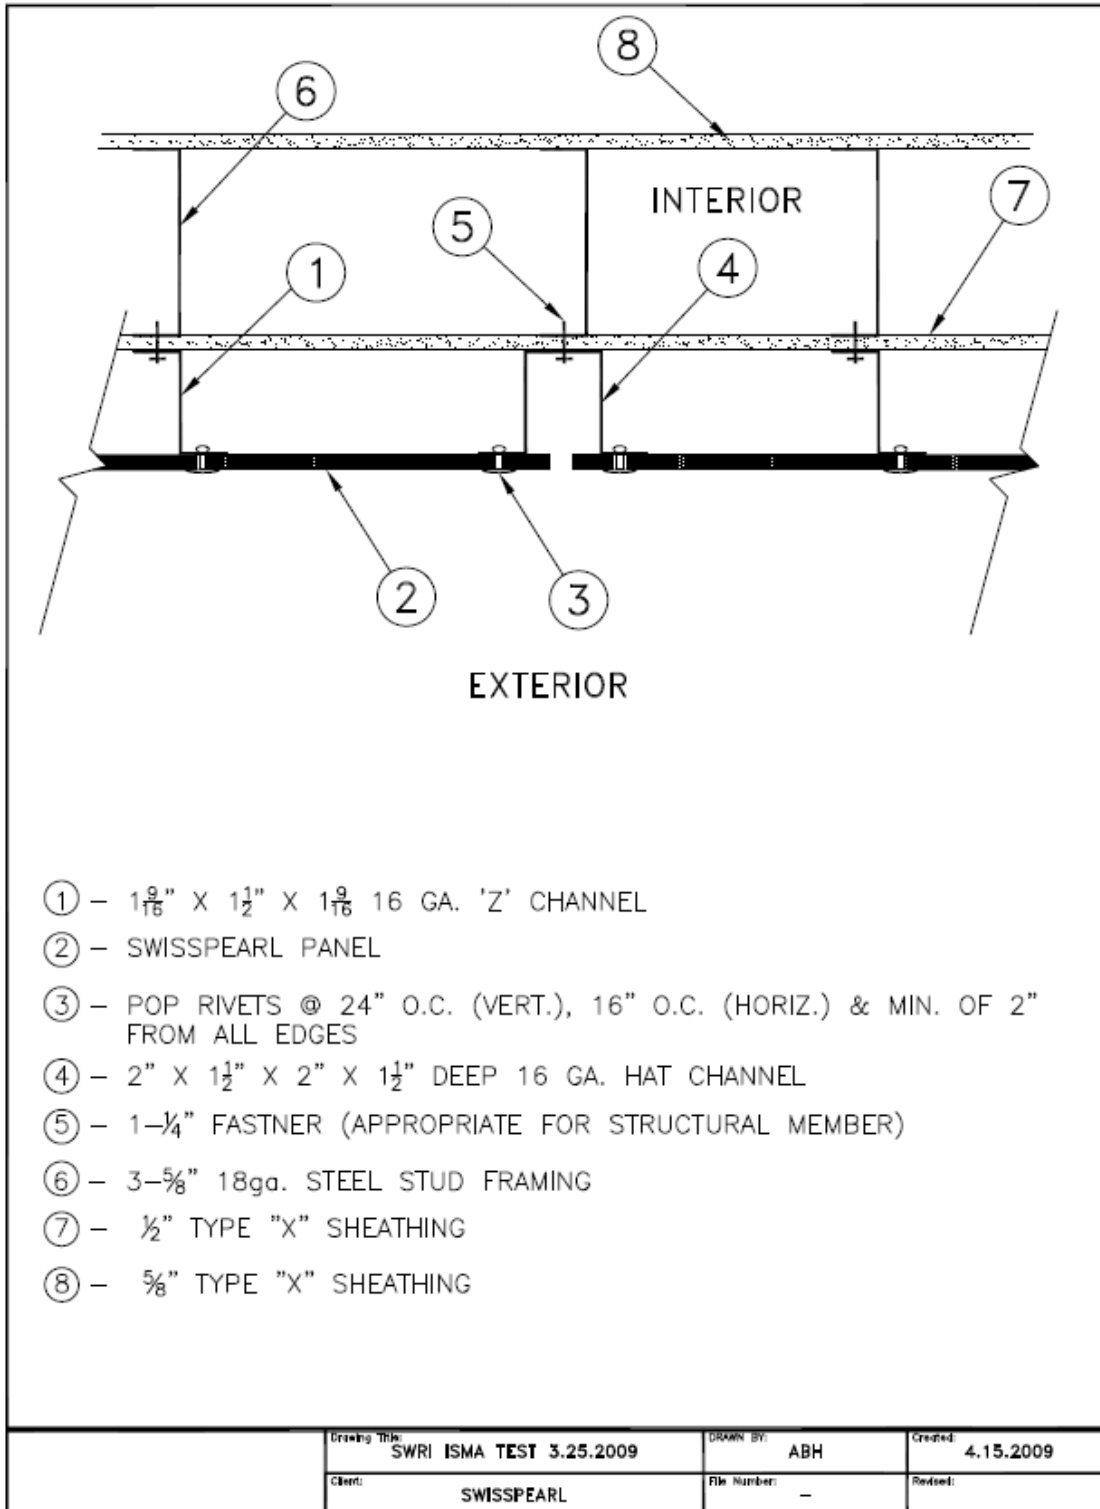

FIGURE 1
4.1 General: The Swisspearl® Fiber-Cement Panel System consists of Swisspearl® Fiber-Cement Panels attached with concealed or visible fasteners to metal brackets which are attached to aluminum or steel track. The Swisspearl Fiber-Cement Panel System has the following trade names; Swisspearl Carat, Swisspearl Gravier, Swisspearl Vintago, Swisspearl Vintago-Reflex, Swisspearl Reflex, Swisspearl Avera, Swisspearl Nobilis, Swisspearl Terra, Swisspearl Planea, and Swisspearl Zenor. See Figure 1 of this report for typical bracket profiles and installation illustrations.